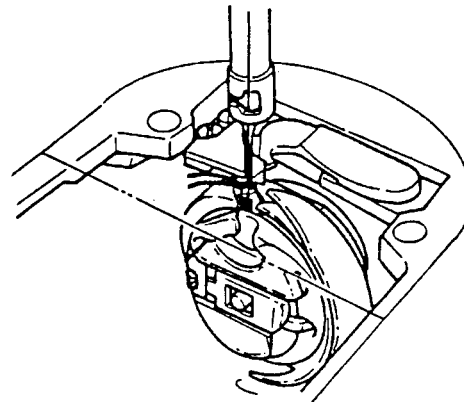

Fig. 38
1. When the foot treadle is returned to its neutral position upon completion of the sewing cycle, the needle bar stops approximately 3mm above the lower dead point on its upward stroke (Fig. 38, hook point in the loop of needle thread).